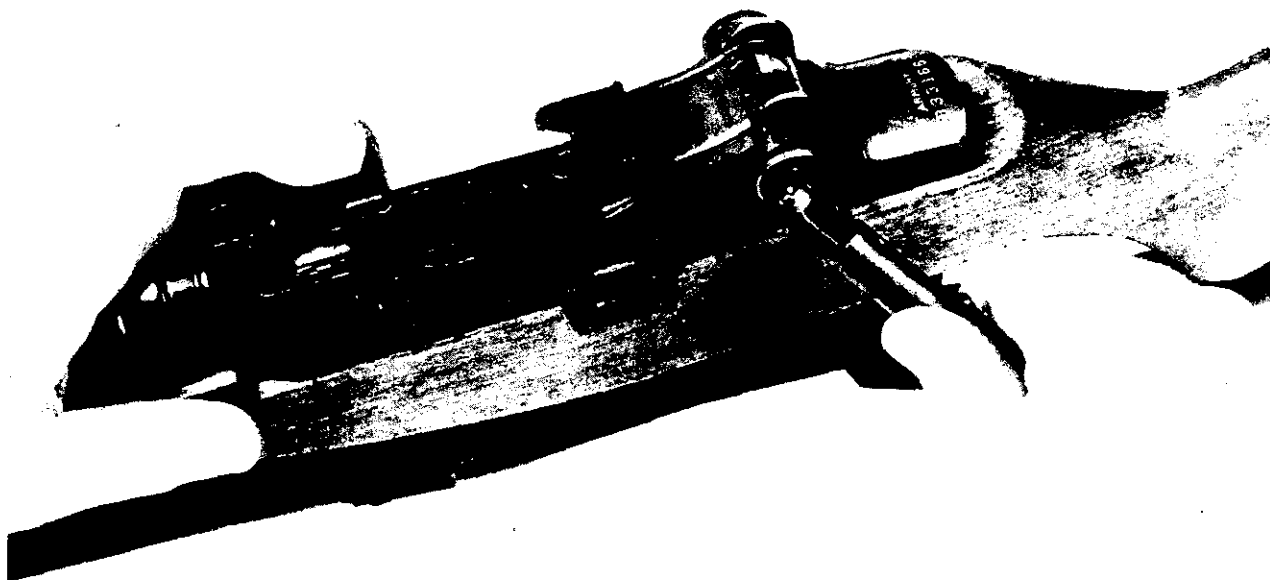

Figure 42. Combination tool used as a screwdriver.
- (2) The combination tool can be used as either a 20° offset screwdriver or as a gas plug wrench (figs. 42 and 43).